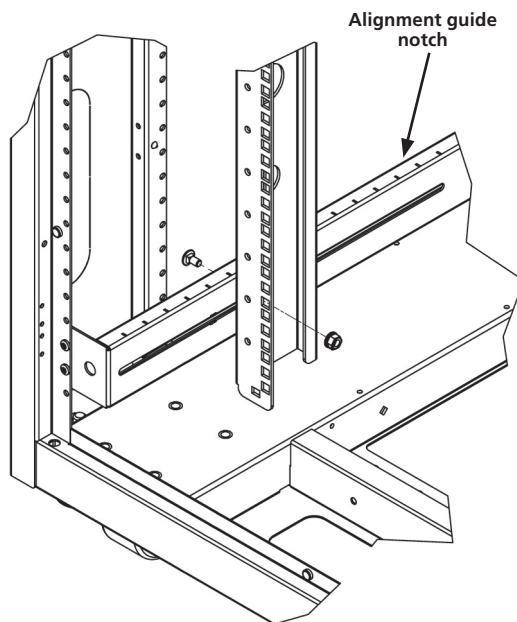

Figure 3-8. Adjusting the vertical mounting rails.
Rails are attached using a sliding nut and $\frac{1}{4}$ -20 hex head bolt. Loosen both top and bottom bolts, using a $\frac{3}{8}$ " socket set, then adjust the rails front to back using the alignment guide notches shown in Figure 3-8. Rackmount units (RU) are marked on rails for easy equipment mounting. Round cable passthrough and vertical and horizontal cable tie-down slots are provided on side of rails.